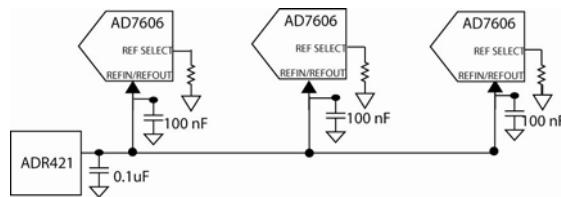

Figure 40. Single external Reference driving multiple AD7606 REFIN pins
**External reference mode:** One ADR421 external reference can be used to drive the REFIN/REFOUT pins of all AD7606 devices, see Figure 40. In this configuration each AD7606/AD7606-6/AD7606-4 REFIN/REFOUT pin should be decoupled with a 100 nF decoupling capacitor.